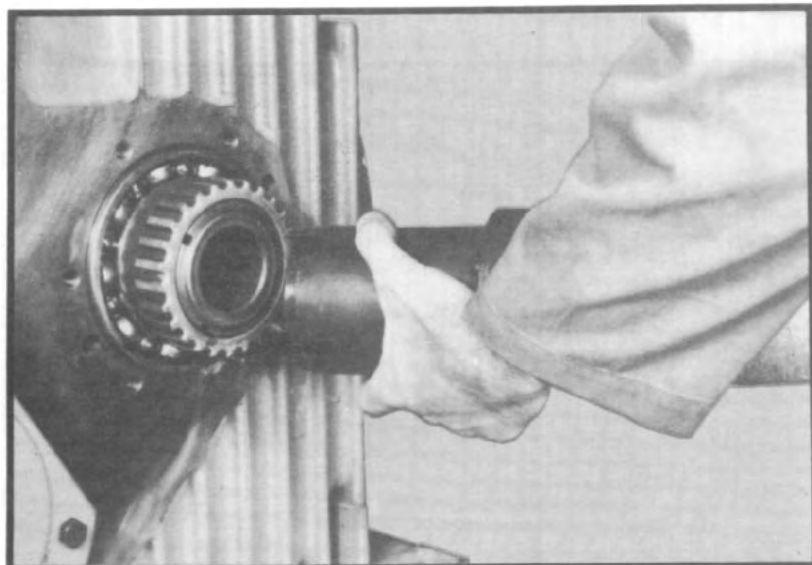

Fig. 151
3.17 Tighten special nut on front of lower shaft to correct torque, using a special wrench. (See tool reference, Section X and fig. 151.) With a feeler gauge, measure the end play between the gears and the thrust washers. There should be .015-.020 end play on both gears.